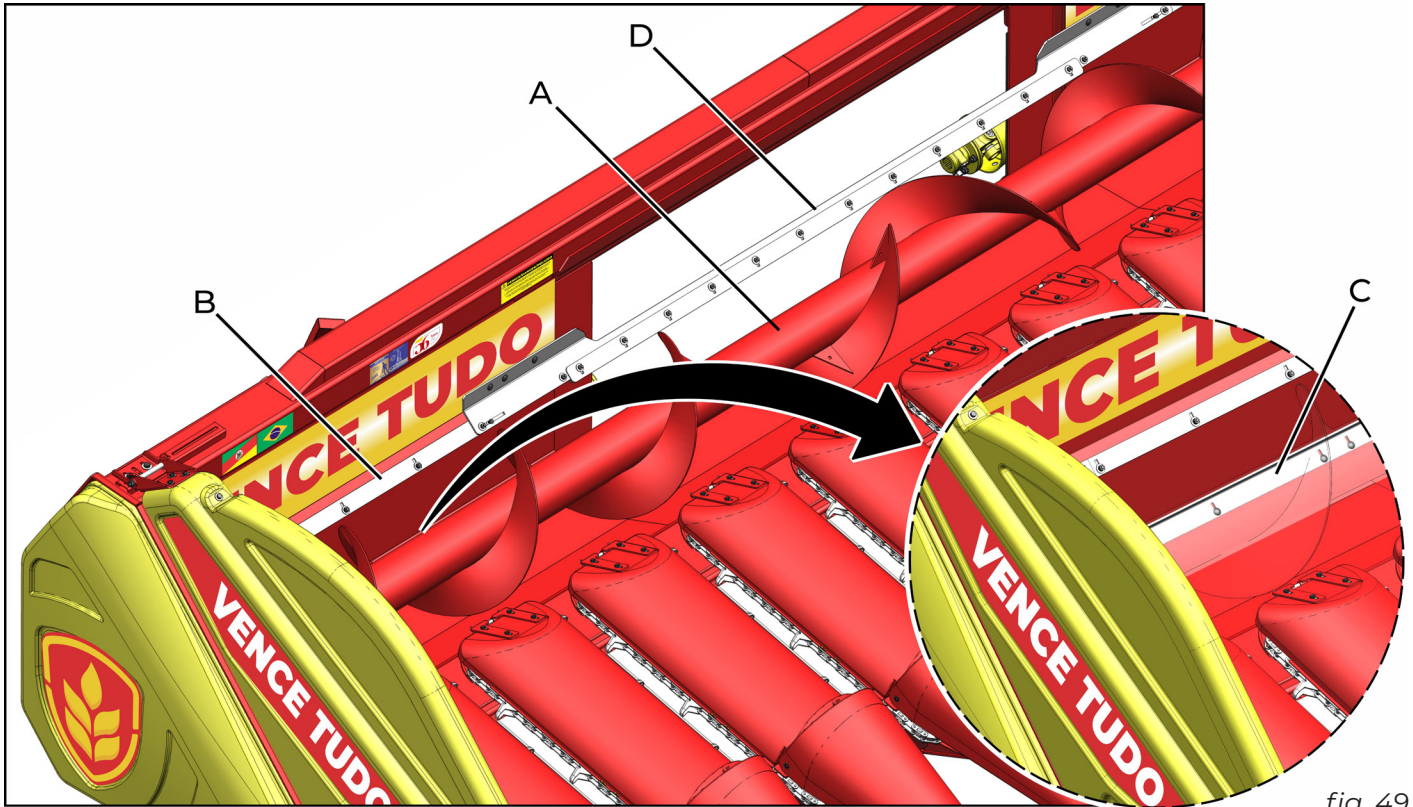
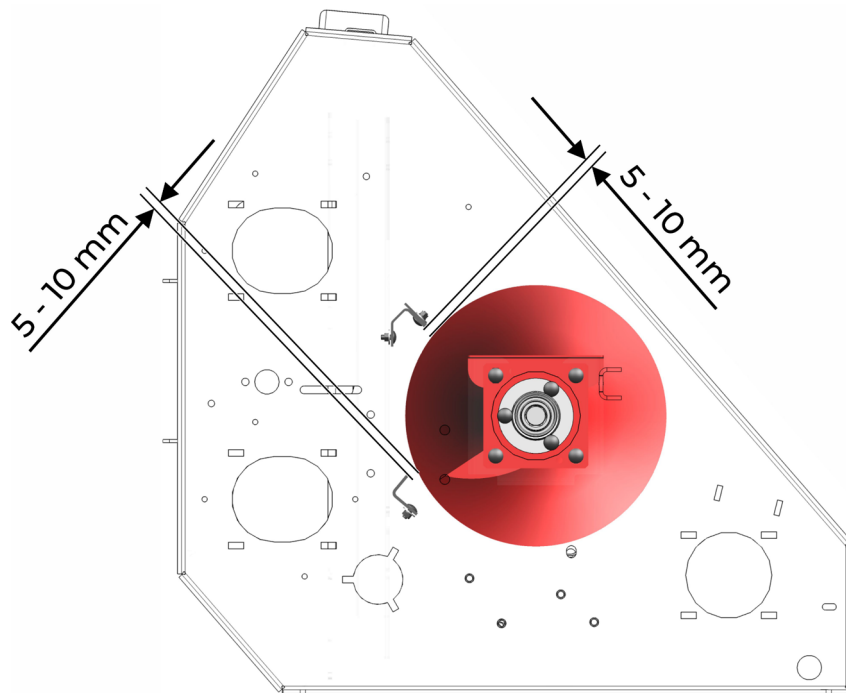

fig. 49
fig. 50
To improve the efficiency of the auger (A) (fig. 49), the header has a scraper upper (B) and lower (C) system. This scraper can be adjusted to be as close as possible to the auger helicoid. See the clearance indicated between the auger and the scraper in figure 50.
When harvesting where there is a large ratio of invasive plants, the central scraper (D) (fig. 49) should be assembled to avoid accumulating material in the middle of the auger. The middle scraper is an optional set and can be acquired separately from the header.